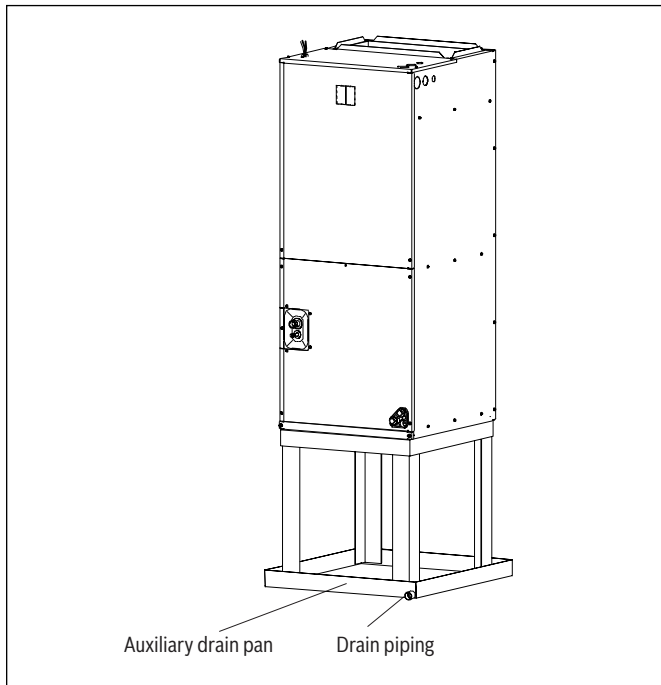
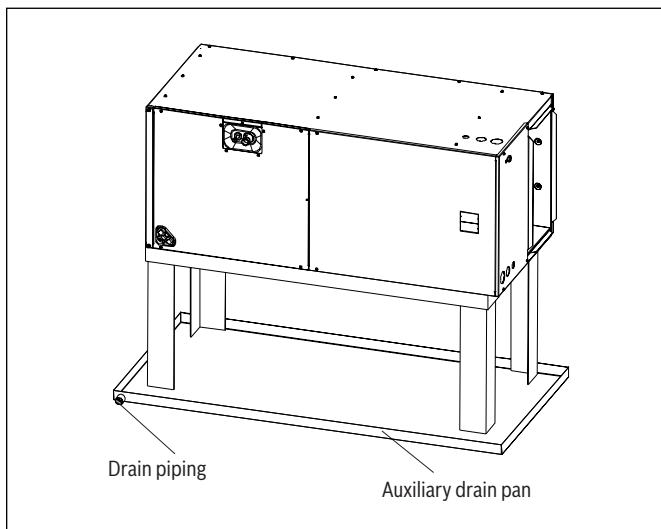
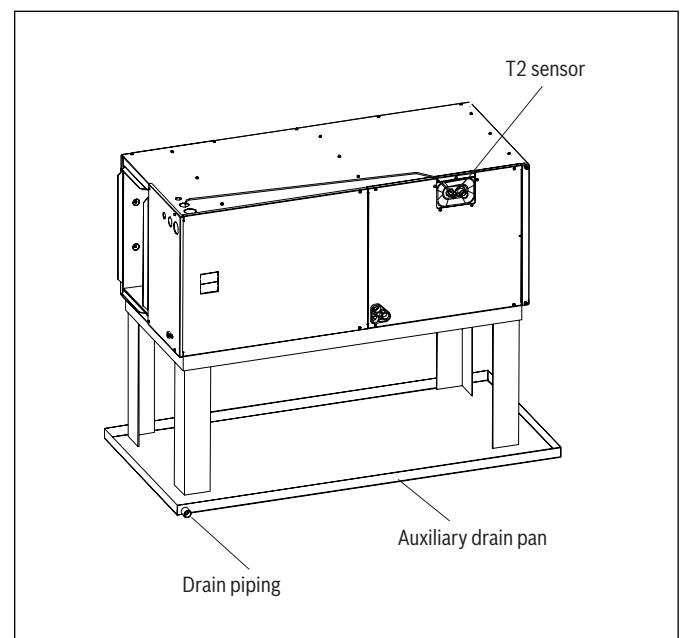
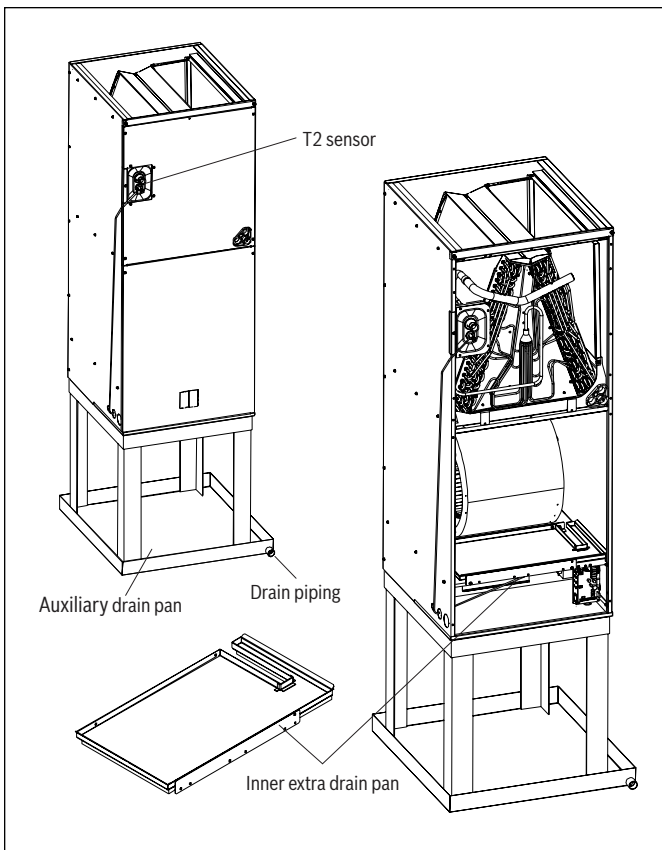

Figure 3 Installed vertical upflow
Figure 4 Installed horizontal right
Figure 5 Installed horizontal left
Figure 6 Installed vertical downflow
Condensation may come from the surface of the insulation. Be sure to use insulation that is designed for use with HVAC Systems. Condensation may be produced on surface during cooling operation. It is also recommended to use auxiliary drain pan and secure the unit firmly to prevent it from falling. See Figure 3, Figure 4, Figure 5 & Figure 6.
Inner extra drain pan is recommended to be installed for vertical downflow applications installed in high humidity environments. This inner extra drain pan can be ordered using part number 8733980005 for 2,3 ton cabinets, and 8733953539 for 4,5 ton cabinets. Refer to Figure 6.
- Vertical Upflow configuration is the factory default on all models (see Figure 3).